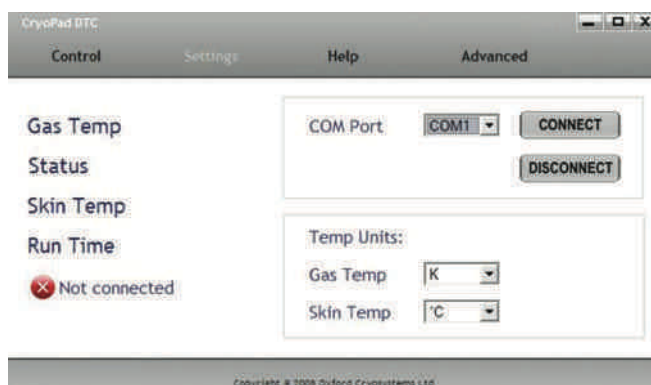

Figure 4 – CryopadDTC Settings Screen (No DTC Connected)
3. Go to the Settings tab (see Figure 4) and select the correct COM Port, then click CONNECT. This should change the setting from “Not connected” to “Connected”. If this does not occur, select another COM Port.